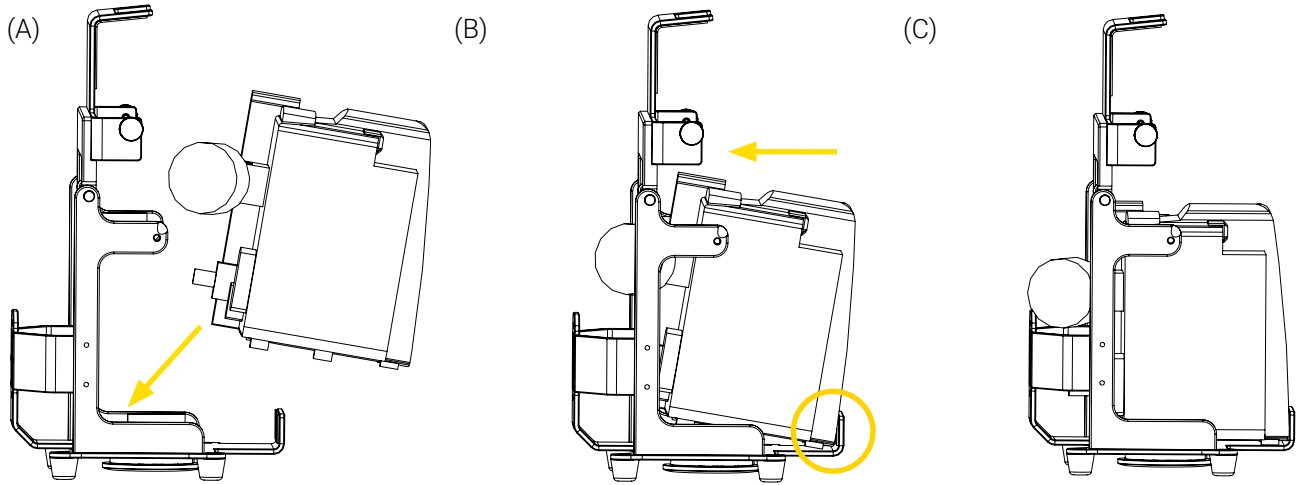

Figure 4: Installing the Plum 360 in the Bracket Pro Serie 221
2. Insert the pump in the bracket at an angle and lean it against the front fold of the bracket, ensuring that it is centered inside the mounting system (Figure 4 A and Figure 4 B).
3. Tilt the pump in an upright position in the bracket (Figure 4 C).